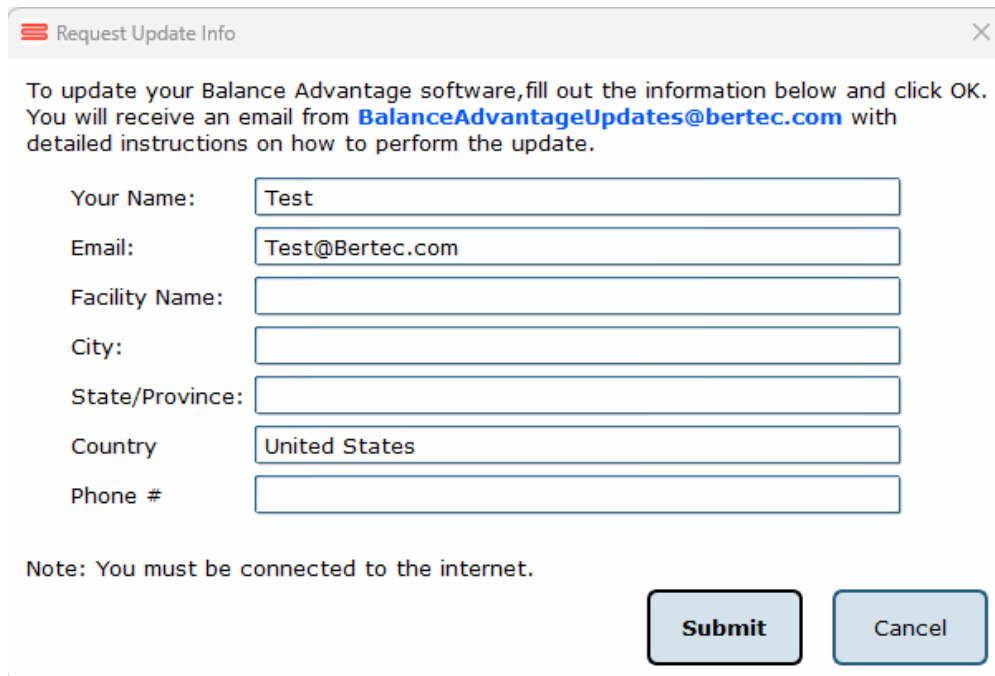

Figure 9: Request Update Info
**Edit Field:** Selecting a current field in the system list (at the top of the box) will activate the Edit Field button. This allows the operator to set the type of text that appears in the box (either operator-input text or text from user-created lists), set where in the list the field will appear, and check whether or not it is a required field. Figure 9 shows the Edit Field options menu.